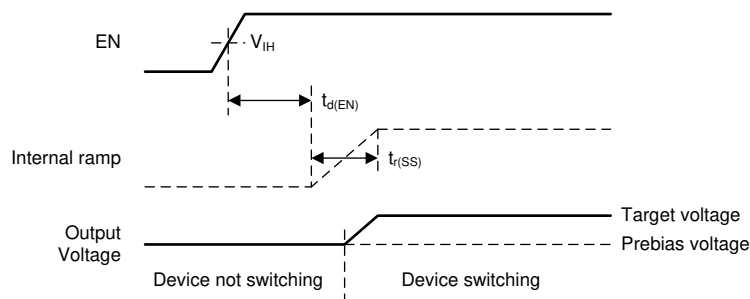

Figure 7-8. Start-Up Behavior into Prebiased (Low) Output
- If the prebias voltage is *lower* than the target voltage, the device does not start switching until the ramping output voltage is greater than the prebias voltage (see Figure 7-8).